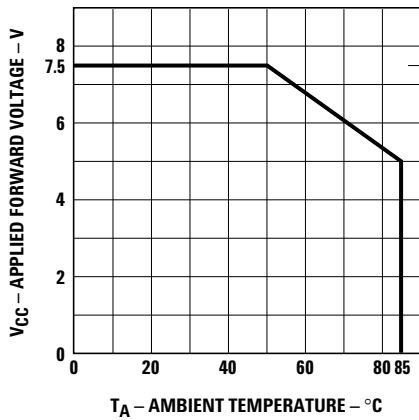

Figure 3. Maximum allowed applied forward voltage vs. ambient temperature $R\theta_{JA} = 175^{\circ}\text{C/W}$. 5 volt devices.
2. Derate from $T_A = 50^\circ\text{C}$ at $0.071\ \text{V}/^\circ\text{C}$, see Figure 3.